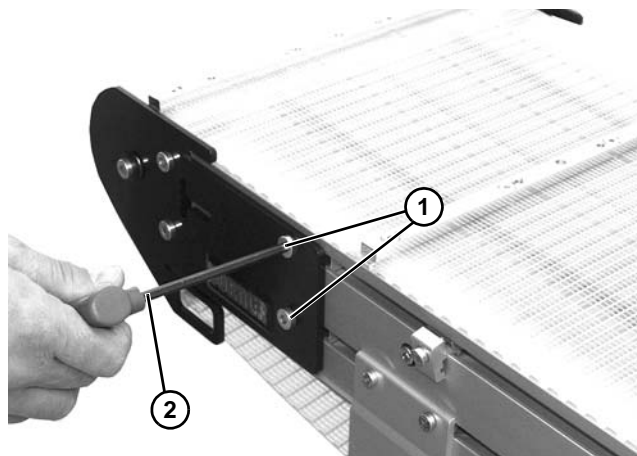

Figure 22
5. For fixture belt conveyor, loosen UHMW support screw of idler tails. Loosen screw (**Figure 22, item 1**) on both sides of tail with hex wrench (**Figure 22, item 2**).